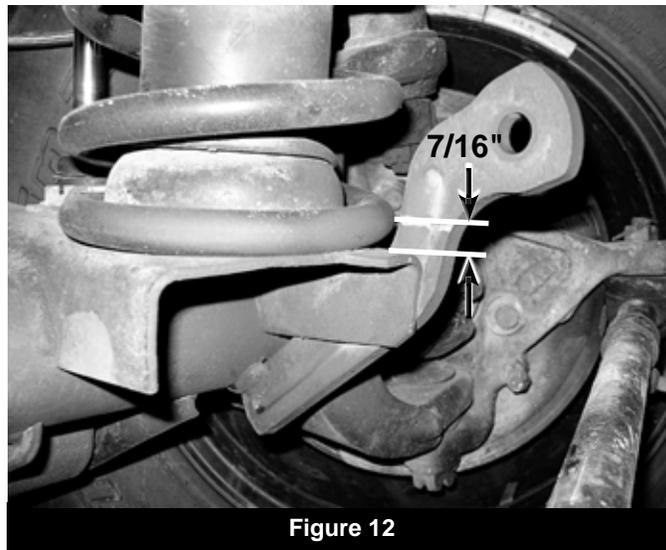

Figure 12
37. The front sway bar link axle mounts must be cut off to provide proper steering linkage clearance at full suspension travel. Starting on the driver's side, make a cut mark on the axle link mount that is $7/16$ " above the top surface of the axle coil mount. This mark will be approximately $2-3/16$ " from the top point of the OE link mount (Fig 12).